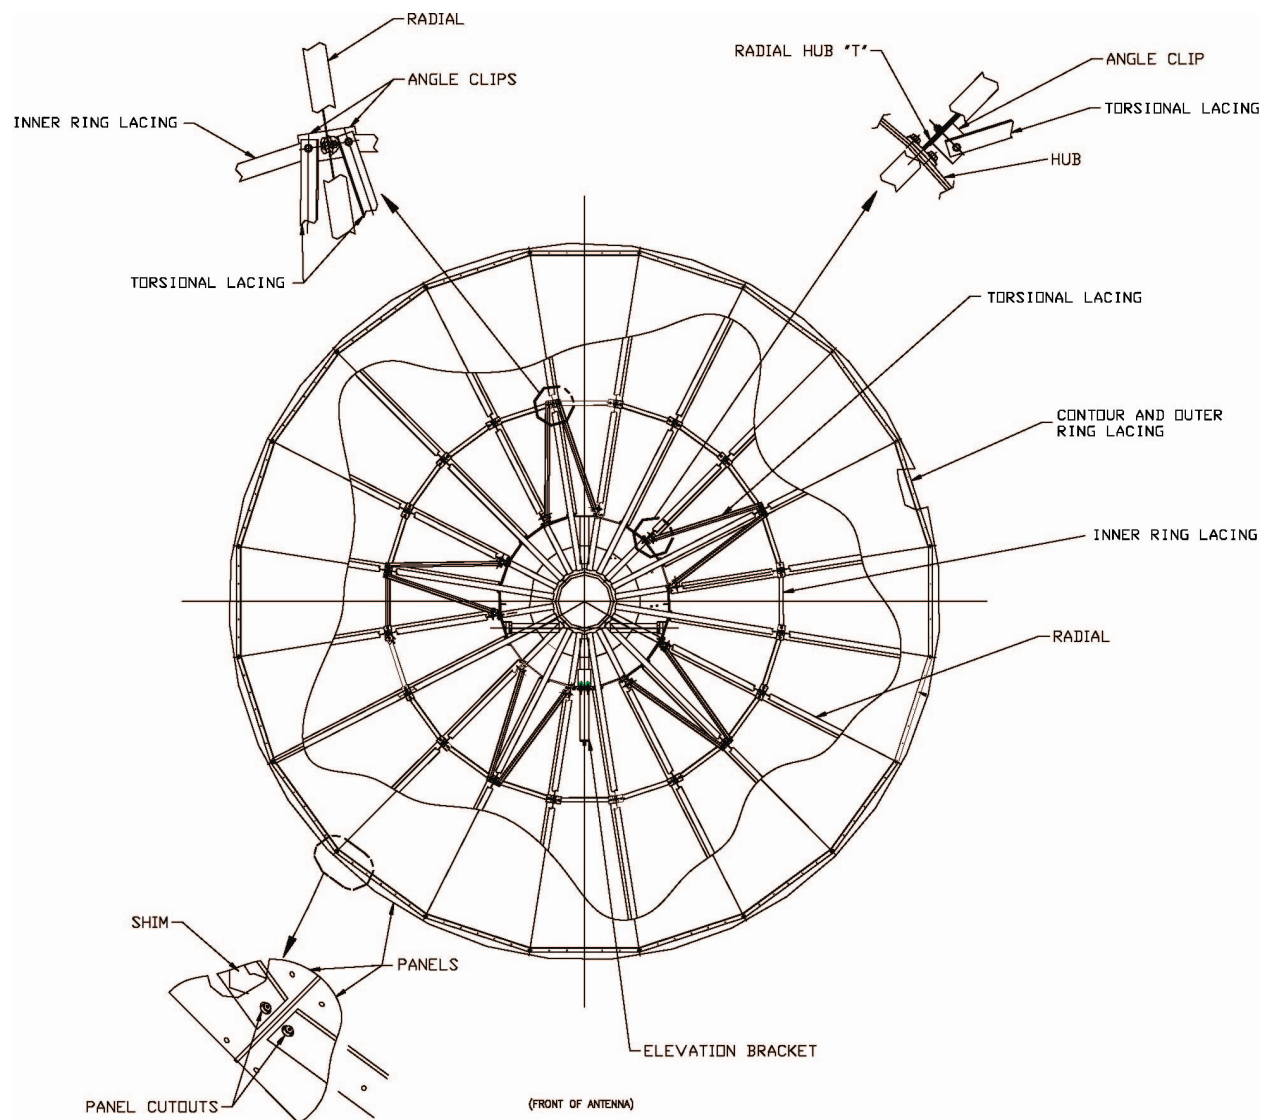

Figure 5. Reflector Lacing Assembly
- Step 1.** Install the 20 contour lacing members using the $\frac{1}{4}$ " diameter hardware provided (see Figure 5 and drawing in print package). Leave hardware less than finger tight to allow movement.
- Step 2.** Install the 2-1/2" X 2-1/2" angle clips for mounting the torsional, inner ring and outer ring lacing. Leave hardware less than finger tight to allow movement. (see Figure 5 and drawing in print package).
- Step 2.** Maneuver a panel so that it lies on top of two adjacent radials and the contour lacing member in a reflector bay. Temporarily hang the panel from the heads of the contour lacing mounting bolts (see Figure 5).
- Step 4.** Place the contour lacing shim between the panel and contour lacing member, aligning the holes in all three parts (see Figure 5 and drawing in print package).